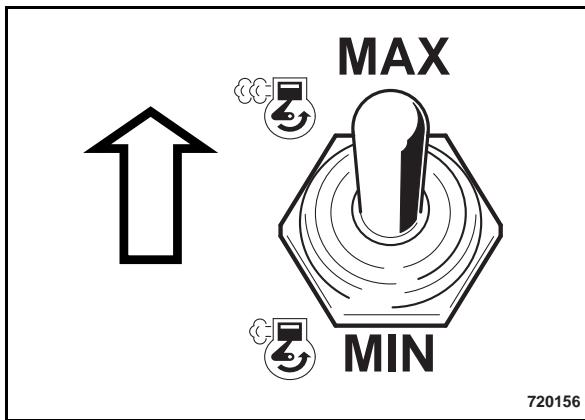

Fig. 38
- Turn the rotary switch for engine speed (Fig. 38) to position MAX.